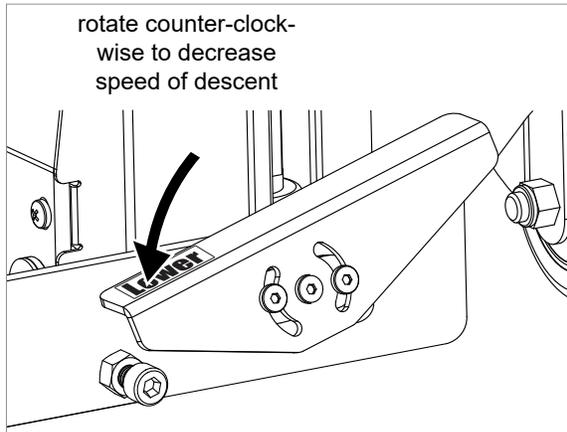
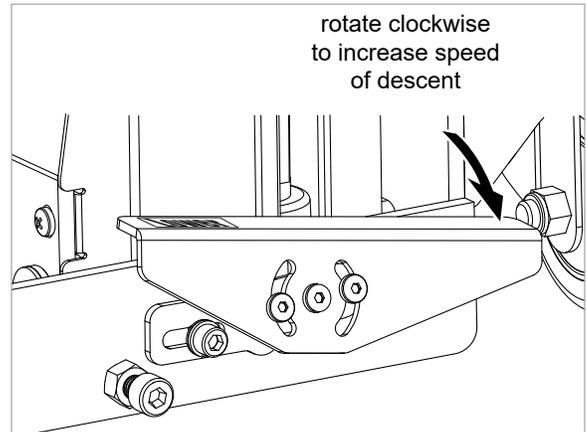

Fig. 5
Fig. 6
2. To decrease the speed at which the saw lowers, rotate the release lever counter-clockwise a small amount (see Fig. 5). To increase the speed at which the saw lowers, rotate the release lever clockwise a small amount (see Fig. 6).